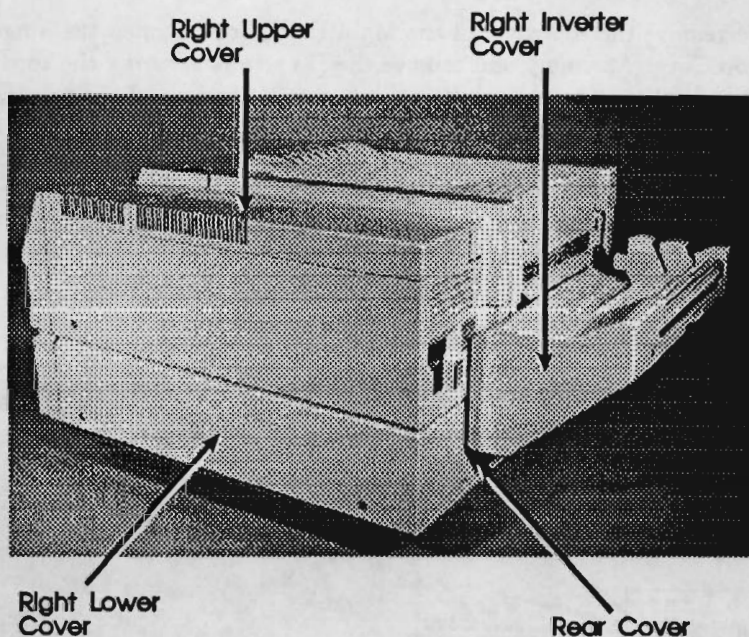

Figure 6-4. HP33447 Main Body Covers
2. Remove (8) screws securing the Main Body Cover Assembly (see Figure 6-4).